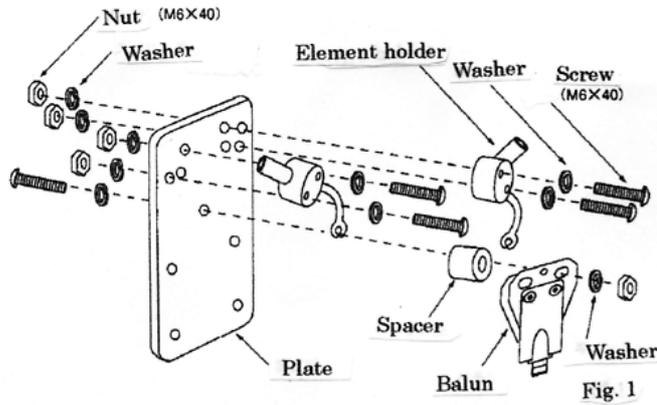

Fig. 1
1. Assemble feedpoint section (Fig. 1)